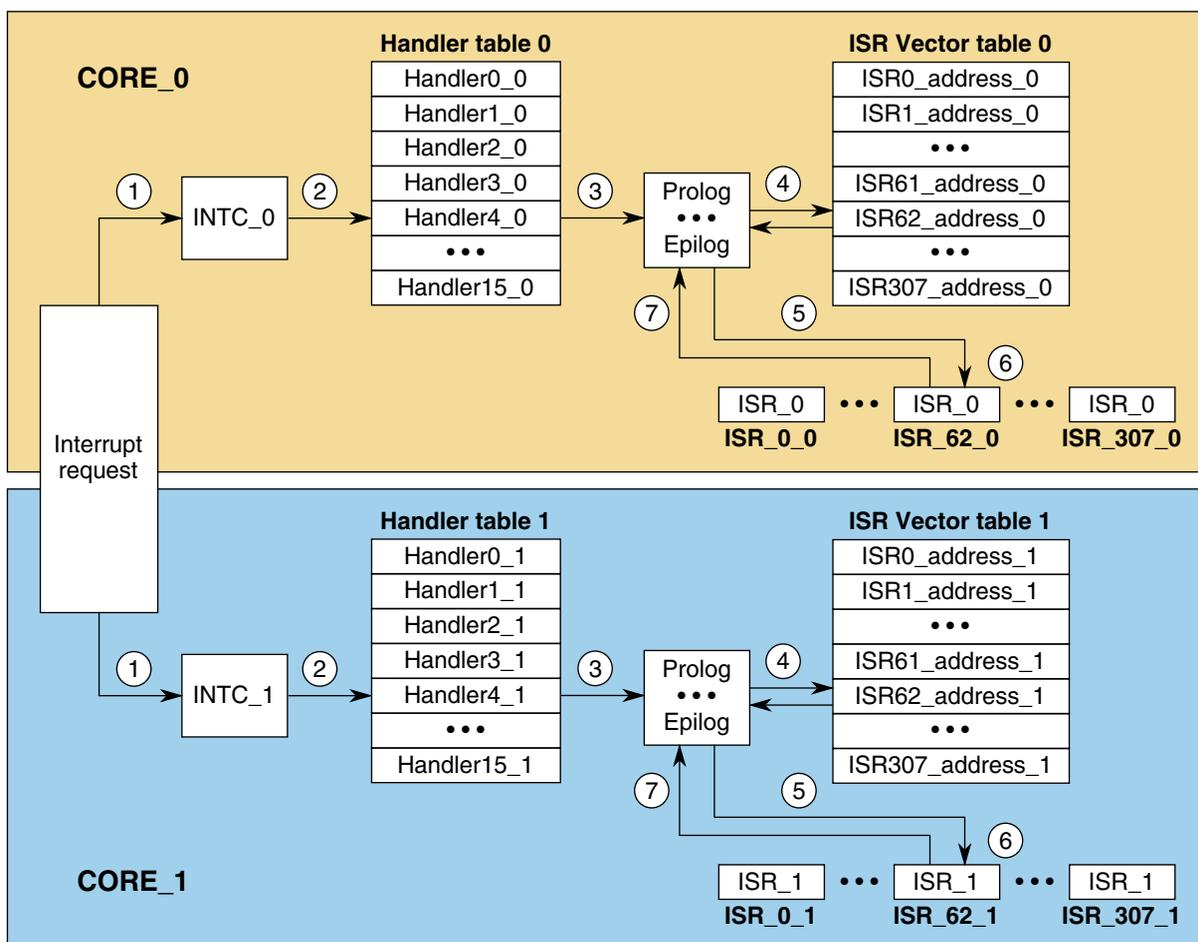

Figure 1. Interrupt service procedure in Software Vector mode
The interrupts signalize an event, or refer to some changes in the peripherals such as the end of conversation from ADC, and direct memory access (DMA) transfer completed. The main advantage of the interrupt service routine (ISR) is the independence on core. For example, consider a situation where the user wants the ADC to start as soon as the DMA transfer is completed. In this case, the core does not have to continuously check the state of DMA transfer but it is enough to enable interrupt request from DMA transfer completed and if it occurs, the ISR which starts ADC, will begin. The sequence of interrupt service for external interrupts which is always executed, is shown in Figure 1. Both the cores have the same sources of interrupts with some peripherals being shared by both the cores and some being used individually for each core. External interrupts are those which are not generated inside the core, but enter the core from external sources, which in this case, are peripherals. There are 35 core interrupts and each has its own interrupt handler. Only IVOR4 handler is used for external interrupts while all the other handlers are used only for internal events as described in the table below.
INTC records incoming interrupt events (number 1 in Figure 1) and arbitrates which incoming interrupts are serviced first and which are waiting. Those that have higher priority than the current running application or interrupt will be executed. Other interrupts are masked and will have to wait for handling until their priority is the highest. The servicing of interrupt will begin by code execution on IVOR4 handler address (number 2 in Figure 1), which serves the external interrupt for handling.
IVOR Handler 4 has two main parts. The first one is prolog (number 3 in Figure 1) and second one is epilog, but their functionality is inverted.
- Prolog creates space on stack to create backup for the work registers, loads address of interrupt vector table and the ISR, depending on interrupt request, and saves the returning address of function (number 4 in Figure 1). Interrupt vectors for all available interrupts are saved in the interrupt vector table. This table contains pointers to interrupt service functions. IVOR4 Handler goes to address of the ISR (number 5 in Figure 1). ISR for the interrupt request is executed (number 6 in Figure 1).
- Epilog restores the work registers and space on stack. The epilog is executed after interrupt service function is finished (number 7 in Figure 1). The last step is returning to the main function from which the ISR was called.
The description given above is executed for each core independently if the interrupt request is not from the same peripheral event, that is, the cores are running in parallel. The procedure of processing the shared interrupt request by both the cores is shown in Figure 1. The servicing is identical as if different interrupts are used for each of the cores. It is possible because each core has its own INTC module which is working independently. The interrupt request enters the INTC modules of both